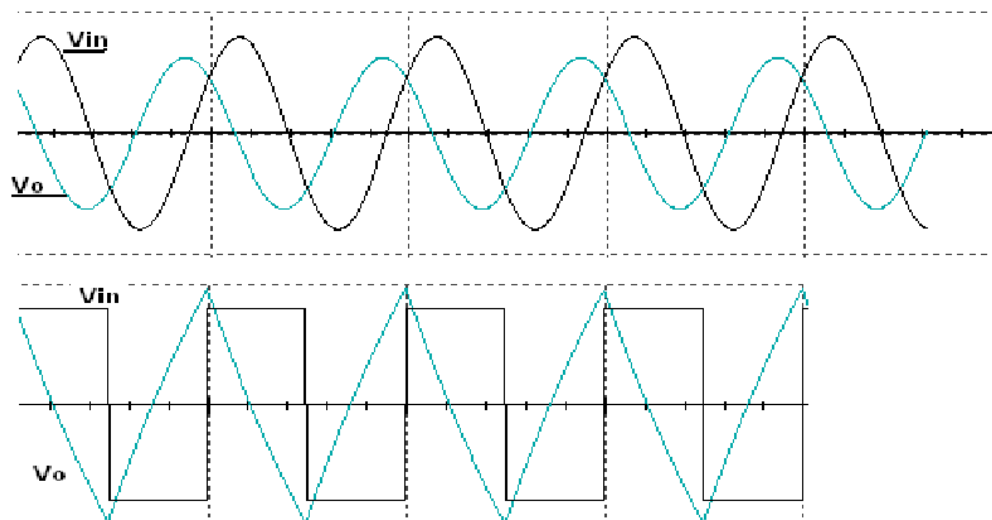

Figure 4
8. Plot the output voltages corresponding to sine and square wave inputs as shown in the Figure 4 below.